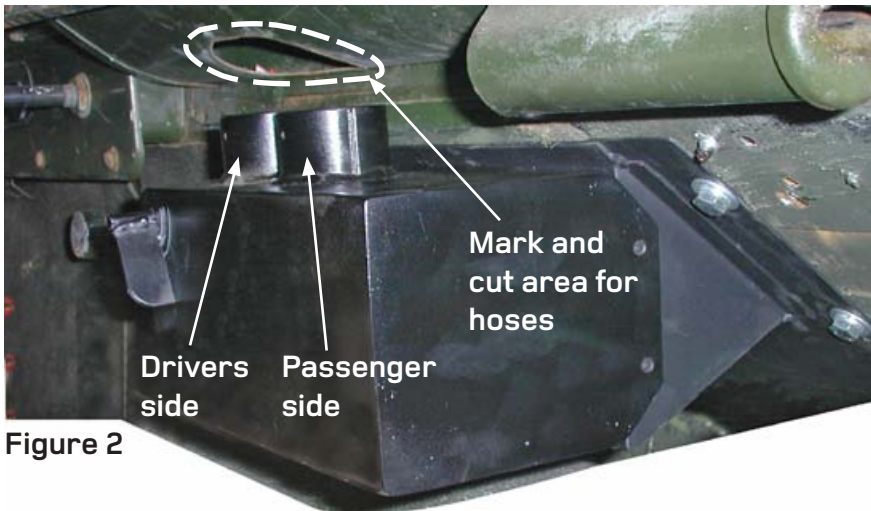

Figure 2
3. While holding the distribution box in place outline the bottom of the dash where the defroster tubes will need to go up through. Mark this and cut with hole saw or air saw. Do the same in the upper dash for defrost hose (Figure 2).